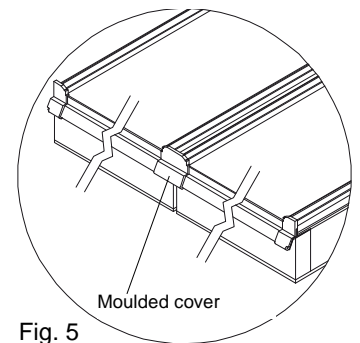

Fig. 5
14. Fix the moulded cover at the lower cover profile using the attached self drilling screws 3,9 x 13 mm, for covering the gaps (Fig. 5).